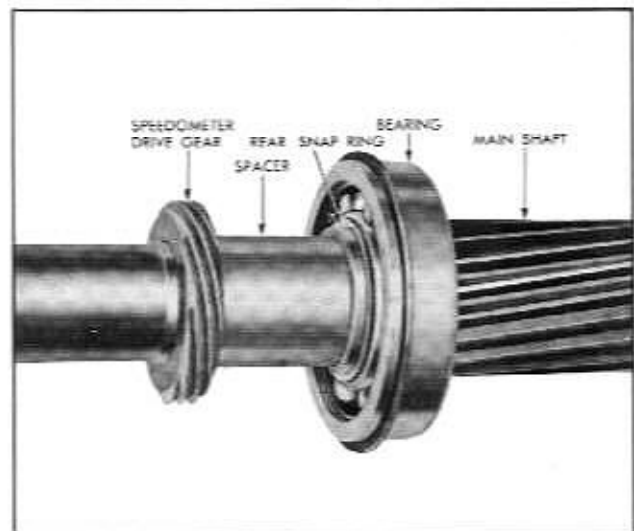

Fig. 7-30 Transmission Mainshaft Assembly
6. Press speedometer drive gear (Fig. 7-30) on shaft against spacer using tool J-6133-A.